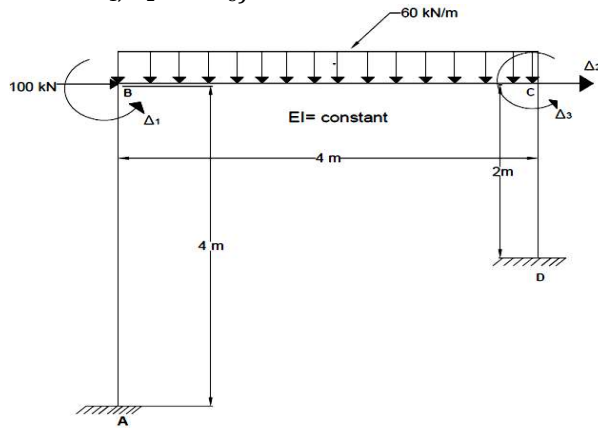

Fig. 13
9. Analyse the portal frame as shown in fig. 13 using stiffness method: (Redundants are  $\Delta_1$ ,  $\Delta_2$  and  $\Delta_3$ ).